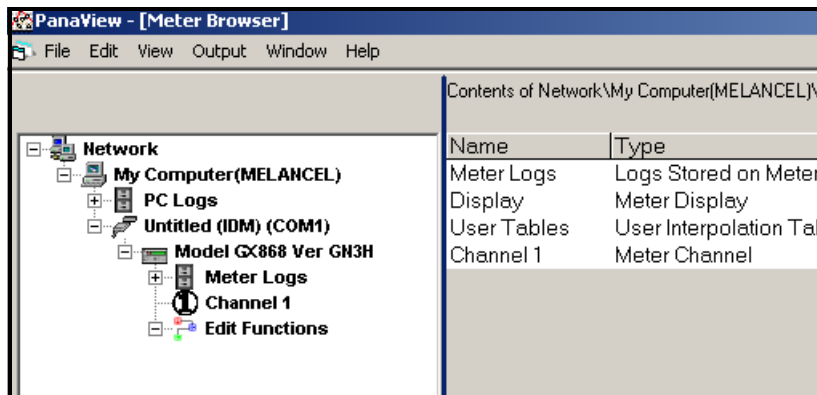

Figure 35: New Meter Browser with Meter Branch
3. Then expand the meter tree as shown in Figure 35 below.